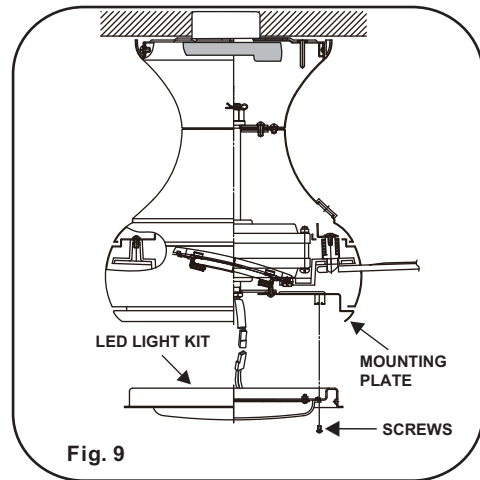

Fig. 9
2. While holding the 30W LED light kit under the fan motor assembly, make the 2-pin wire connections (Fig. 9):